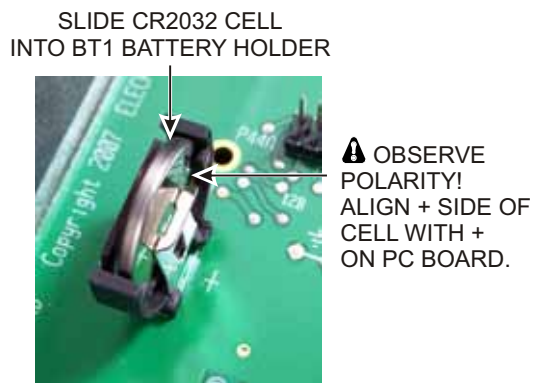

Figure 73. Installing BT1.
- Insert the CR2032 cell into battery holder BT1 as shown in Figure 73.